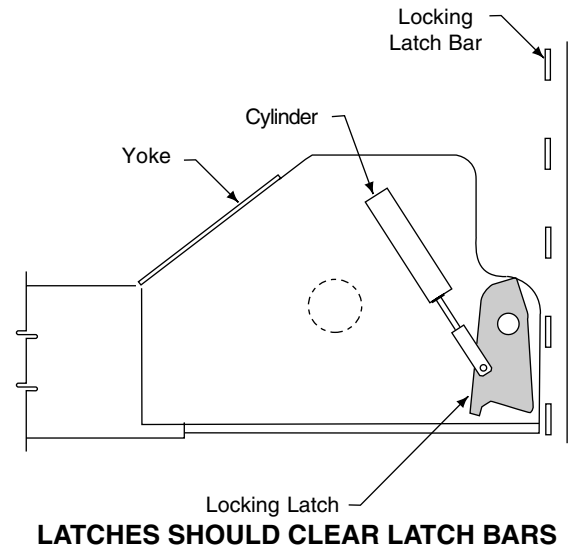

Fig. 25
J. Actuate air valve and check latch operation on all four corners. The locking latches should pull in beyond yoke ends to clear the latch bars located in all four columns, Fig. 25.